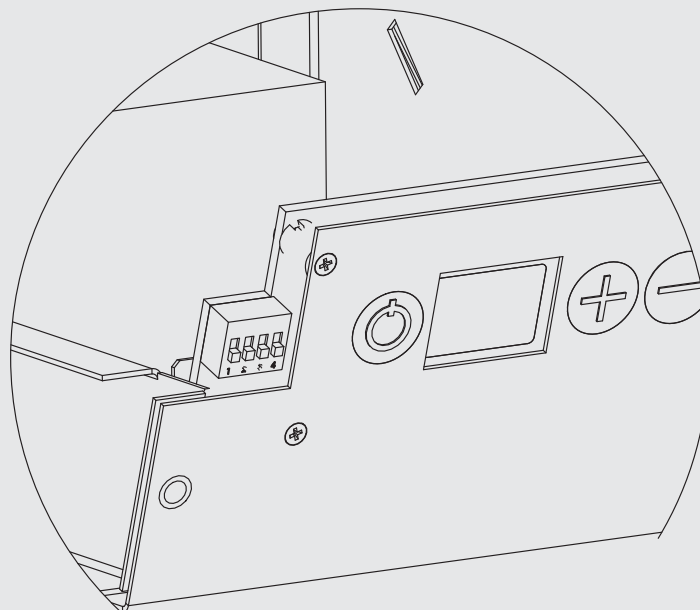

Fig. 5
- Change switch 1 position according to requirements (see fig. 5).